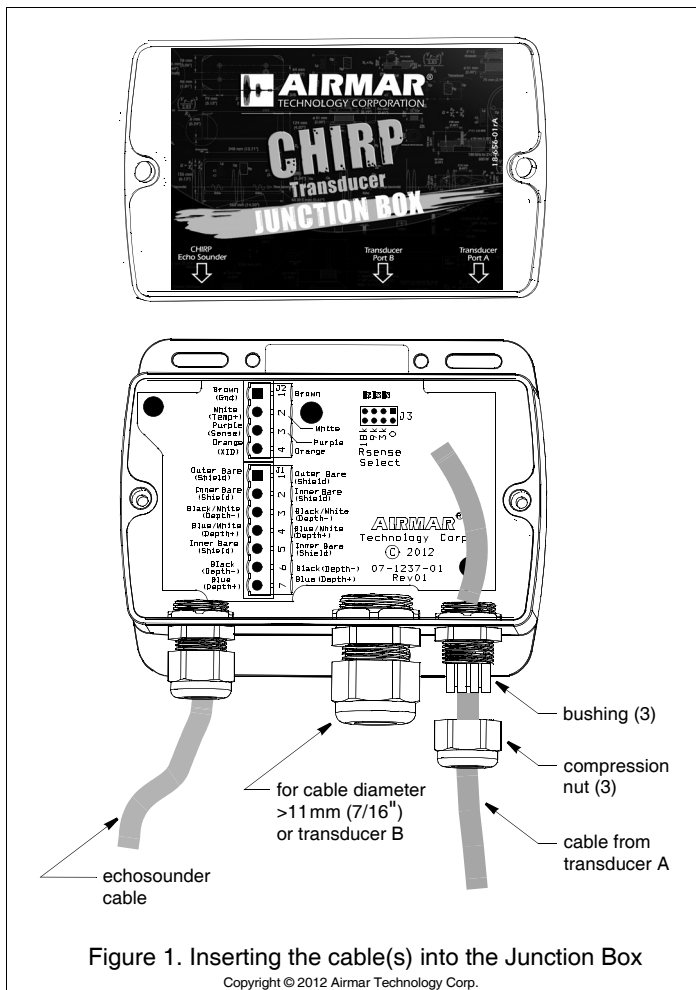

Figure 1. Inserting the cable(s) into the Junction Box
1. Loosen the appropriate compression nut. Push approximately 200mm (8") of the cable through the compression nut and bushing into the Junction Box (see Figure 1). If there are two cables, repeat the process with the second compression nut.